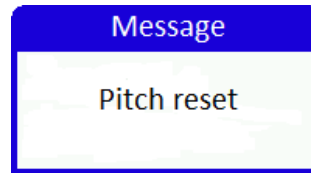

Figure 6: Setting pitch.
- push and hold *up* button sets current pitch, see figure 6,